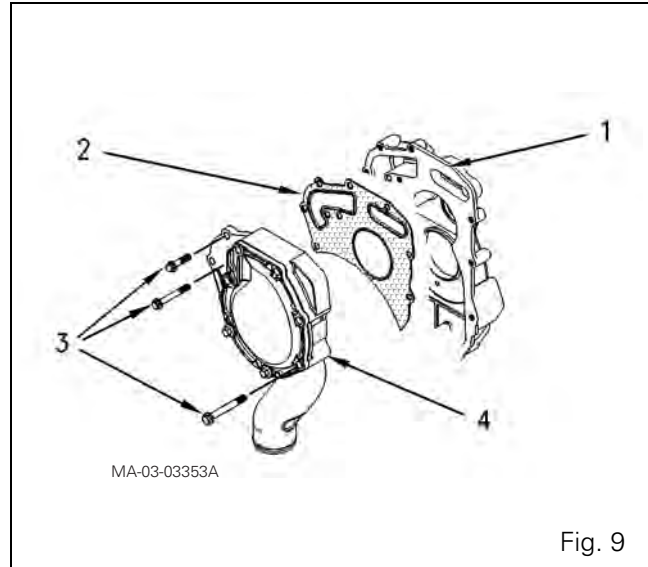
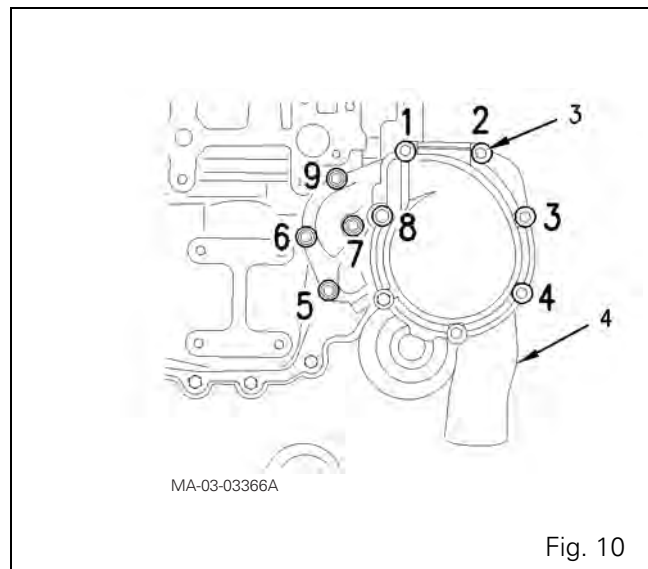

Fig. 9
Fig. 10
50. Position the water pump (4) on the housing (1) (Fig. 9).
51. Position the water pump tightening screws (3) (Fig. 9). Do not tighten the screws.
52. Remove the guide studs from the housing and refit the last remaining screws (3).
53. Tighten the screws (3) in the order indicated in Fig. 10 to a torque of 22 Nm.